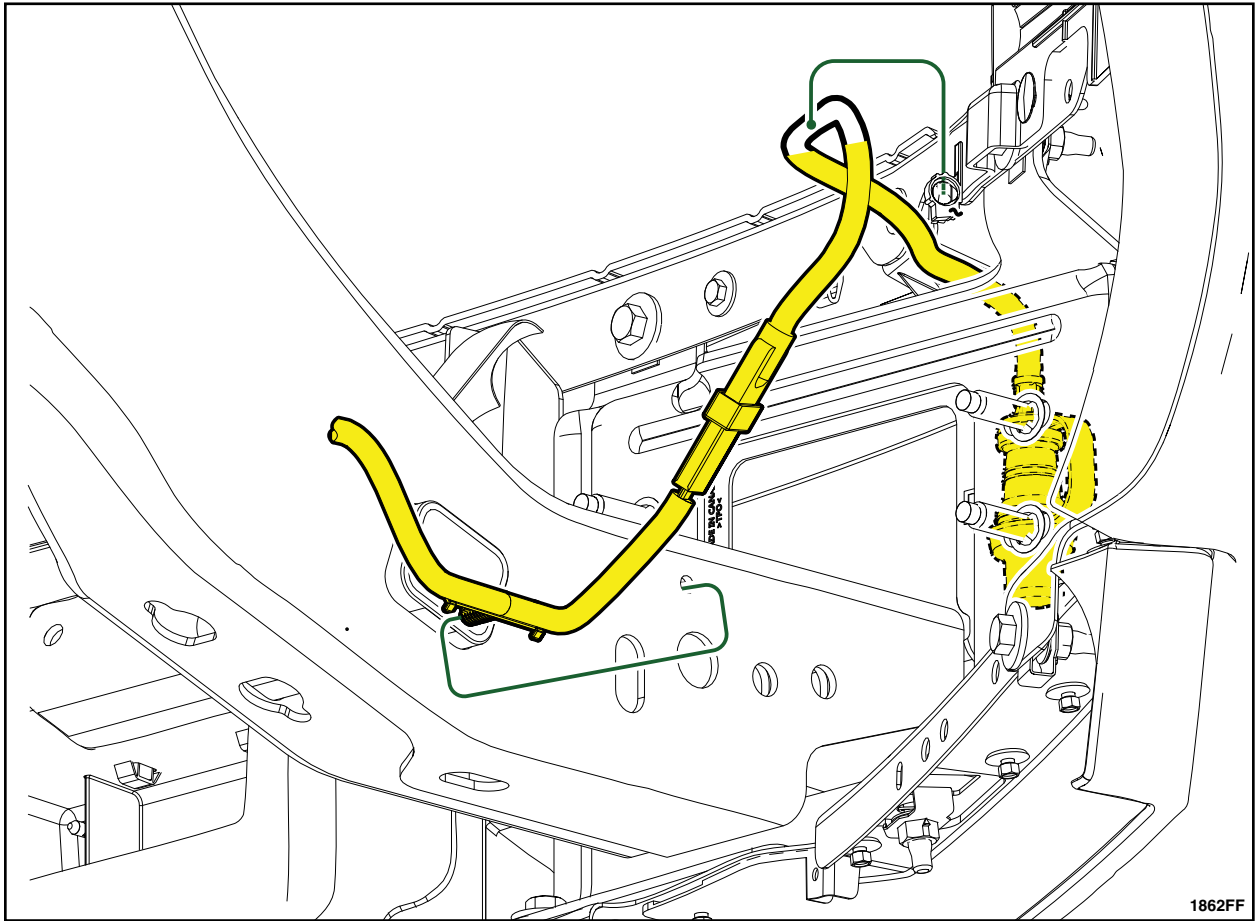

FIGURE 4c
7. Connect the wire assembly in-line connector. See Figure 4c.